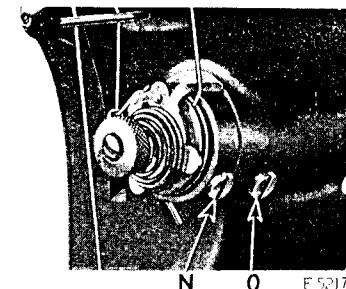

Fig. 15. Adjustments of Thread Controller on
For more controller action on the thread, loosen the stop screw (X, Fig. 15) at the right of the tension and set the stop lower, and for less action, set the stop higher.
To strengthen the action of the controller spring on the thread, loosen the tension stud screw (O, Fig. 15) at the right of the stop screw and turn the tension stud slightly to the left with a screwdriver, or to lighten its action on the thread, turn the tension stud to the right and tighten the tension stud screw (O).